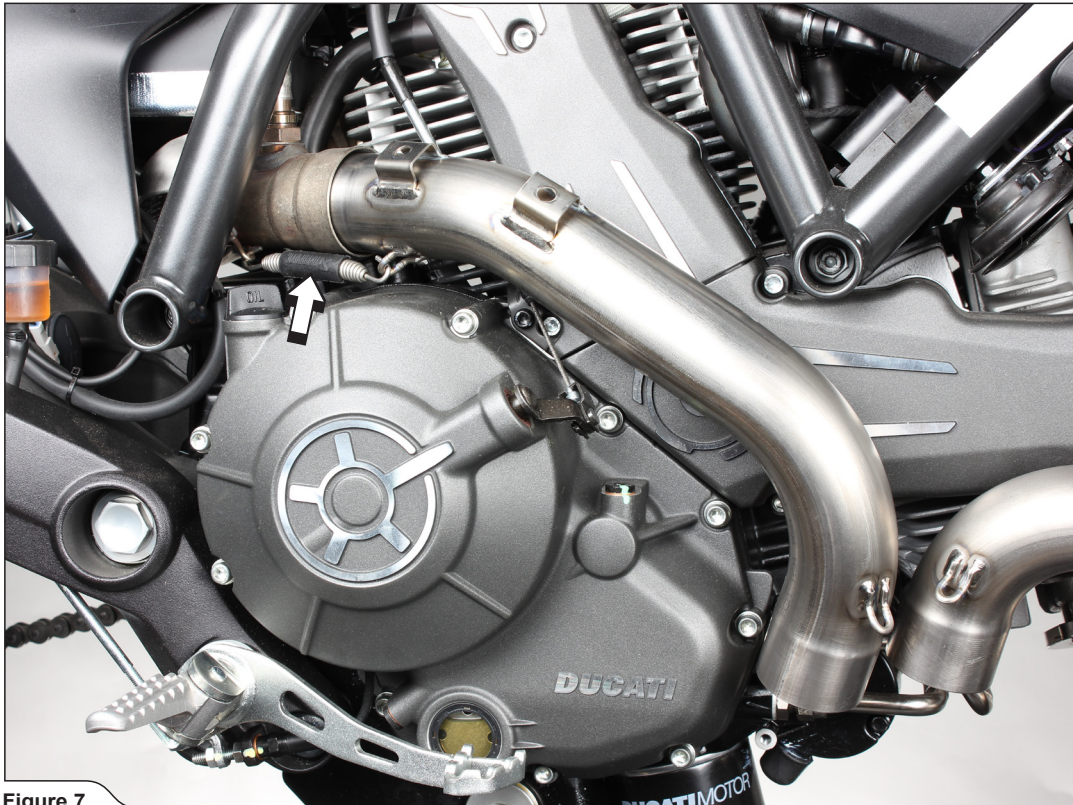

Figure 7
- Slide the rear header into the stock rear pipe and attach the spring from Akrapovič installation kit (**Figure 7**).